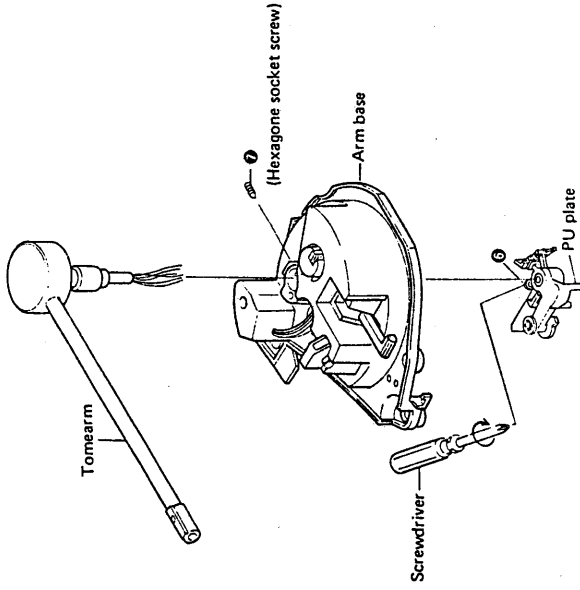

Fig. 3-3 Remote tonearm
2. Loosen the set screw (3) with a screwdriver to remove the PU plate under the arm base (See Fig. 3-3).
3. Undo the screw (4) securing the tonearm to the arm base (See Fig. 3-3).